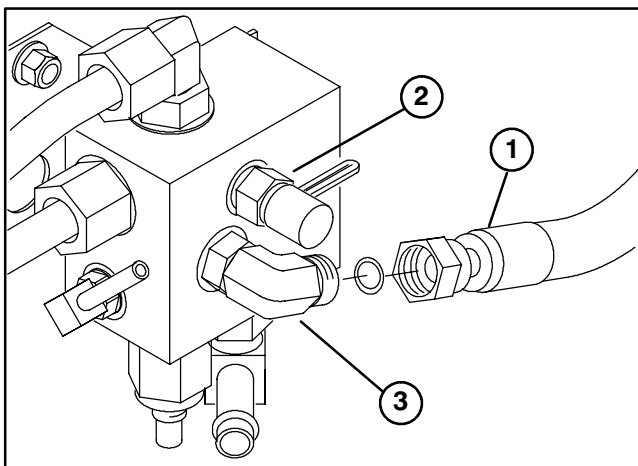

Figure 12
19. (Gm 200 series only) Re-route hydraulic hose, previously removed from elbow fitting on bottom of lift valve, to the rear of the right front engine mount and connect to "OUT" port elbow fitting on side of manifold block (Fig. 12).